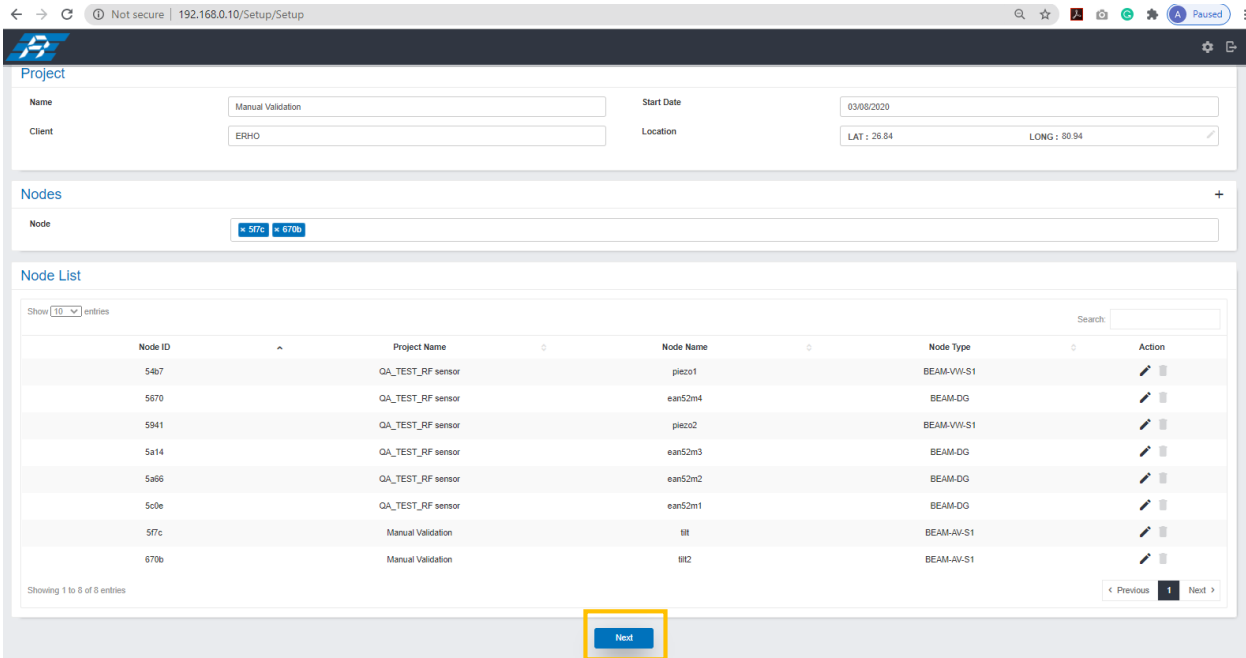

Figure 3-20
6. After selecting all the Nodes, click on 'Next' button as shown in figure 3-20.